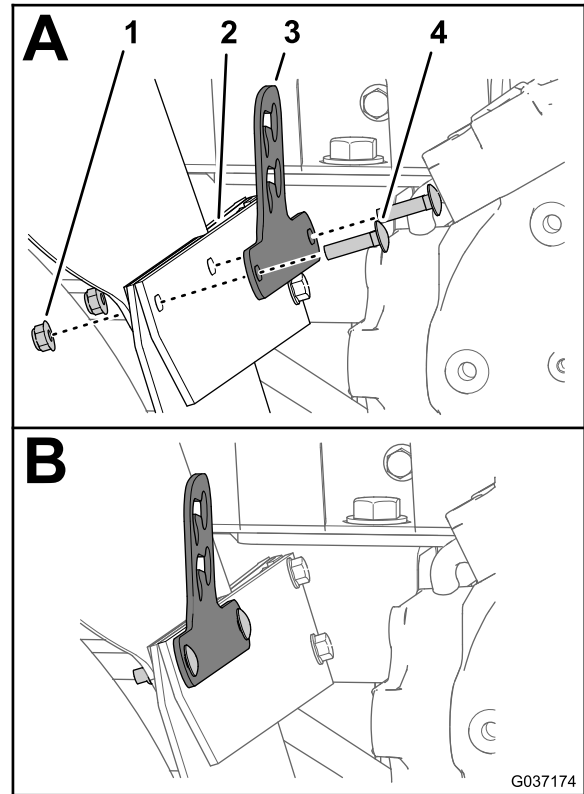

Figure 12
3. Assemble the valve bracket, fender strap, mud flap, and fender (Figure 12) with the 2 carriage bolts (5/16 x 1-1/4 inches) and 2 flange locknuts (5/16 inch).